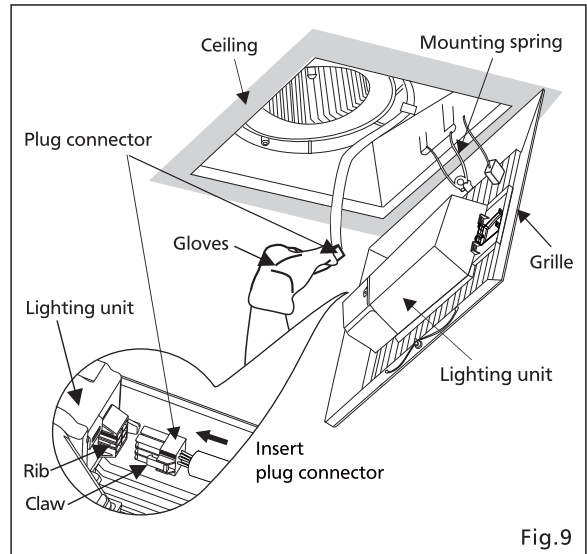

Fig.9
11. Insert the grille mounting spring on the wiring side into the slot and insert the plug connector into the housing of the lighting unit. (Fig.9)
- ! The claw of connector must latch the rib completely. (Fig.9)